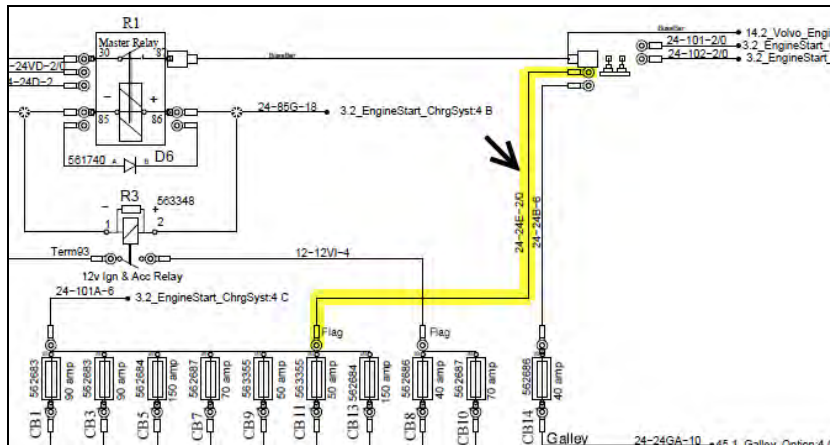

Figure 10
- Between **Bussman junction block** and **main circuit breaker bus bar** (Figure 10 & Figure 11).